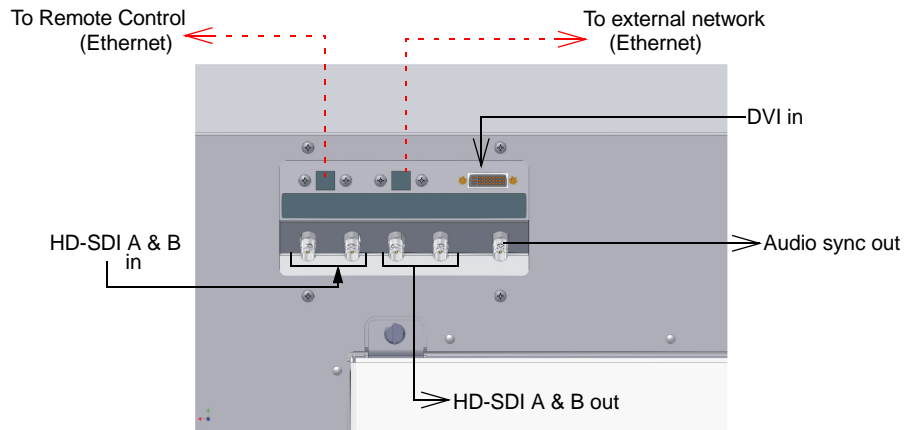

Figure 2-2 Connect Inputs and Outputs
2. Connect your required inputs and outputs on the PRM-4200 rear panel, as shown in Figure 2-2.